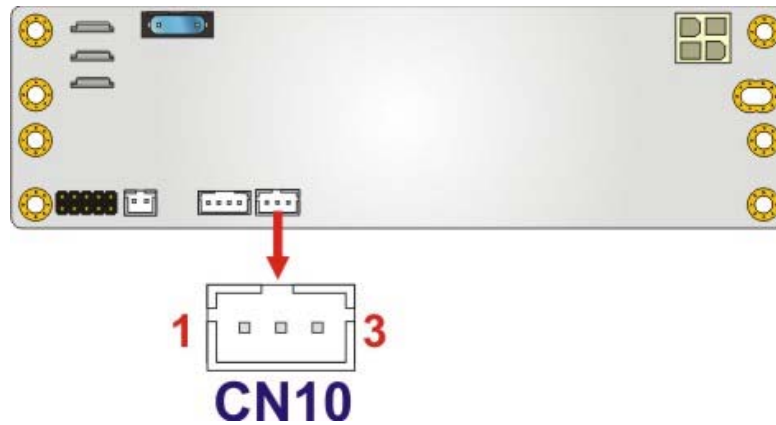

Figure 4-7: Infrared Interface Location
- CN Location:** See Figure 4-7